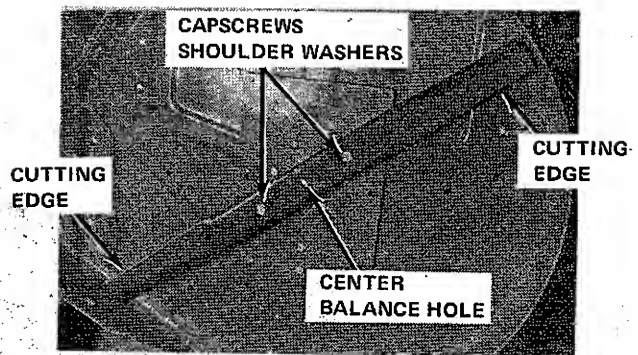

Figure 6-9. Mower Blade
1. Using several layers of folded cloth or a leather glove hold one end of blade while removing both capscrews and shoulder washers (Figure 6-9) attaching blade to arbor.
3. To balance blade, insert a knife blade or small rod through center hole (Figure 6-9) and observe if both ends balance evenly. Refile heavy side, if required.